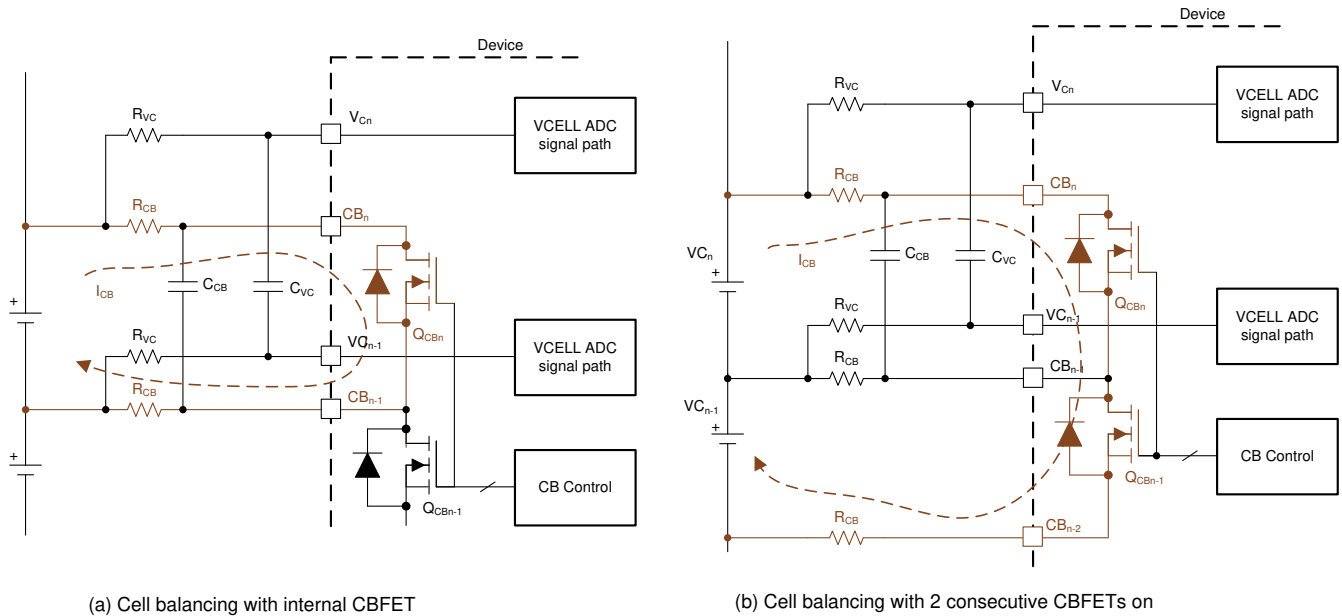

图 8-14. Internal Cell Balancing and the Flow of Balancing Current
- Balancing with no consecutive CBFET on (图 8-14 (a)):  $I_{CB} = V_{Cell} / ((2 \times R_{CB}) + R_{dson_{QCB}})$
- Balancing with two consecutive CBFETs on (图 8-14 (b)):  $I_{CB} = (\text{Sum of two } V_{CELL}) / ((2 \times R_{CB}) + R_{dson_{QCBn}} + R_{dson_{(QCBn-1)}})$
- Manual balancing control ( $[AUTO\_BAL] = 0$ ): With this method, the device will turn on the CBFETs that have non-zero balancing timer settings once  $[BAL\_GO] = 1$  is received. There is no odd and even channel switching during the cell balancing and the  $BAL\_CTRL1[DUTY2:0]$  setting does not apply under this control. Host MCU can enable two consecutive CBFETs with this method. When two consecutive CBFETs are enabled with both channels connected to battery cells, the balancing current is significantly different compared to no adjacent CBFET being on (图 8-14). The  $DEV\_CONF[NO\_ADJ\_CB]$  bit is provided to avoid inadvertent enabling of an adjacent CBFET for a system that is not intended to have an adjacent channel on for balancing. In this control method, the device is relying on the MCU to enable the proper channels. If the MCU sends  $[BAL\_GO] = 1$  but the CBFETs are enabled with an invalid condition, the device will not start balancing and will set  $BAL\_STAT[INVALID\_CBCONF] = 1$ . Invalid configurations are either: